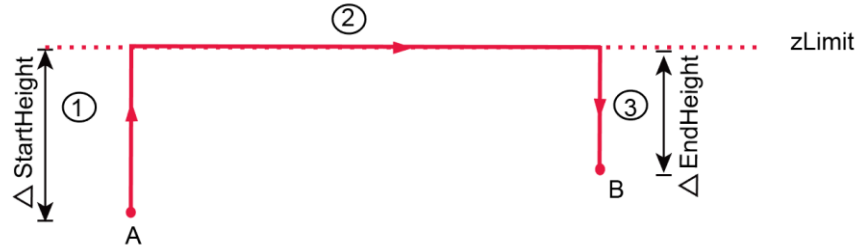

Figure 2.14 Jump mode (1)
- If point A plus **StartHeight** or point B plus **EndHeight** is higher than **zLimit**, the robot moves up from point A to **zLimit** or moves down from **zLimit** to point B directly, the trajectory looks like a door without transition, as shown in Figure 2.14.